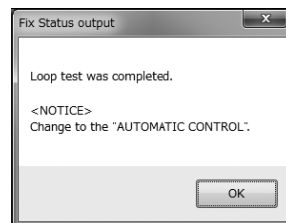

Fig.138
- ⑤ After the "Stop" button is clicked, a message box (Fig. 138) will be displayed. Click the "OK" button.